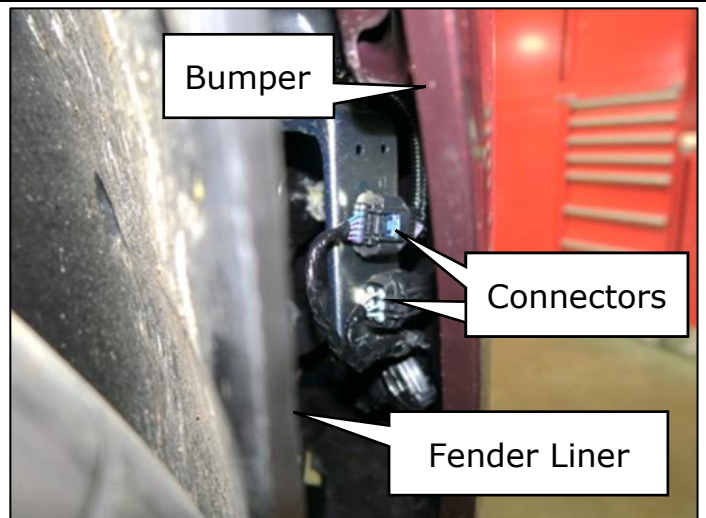

Figure 19
17. On the RH side of the vehicle, hold the fender liner outward and locate the (2) harness connectors. (Figure 19)